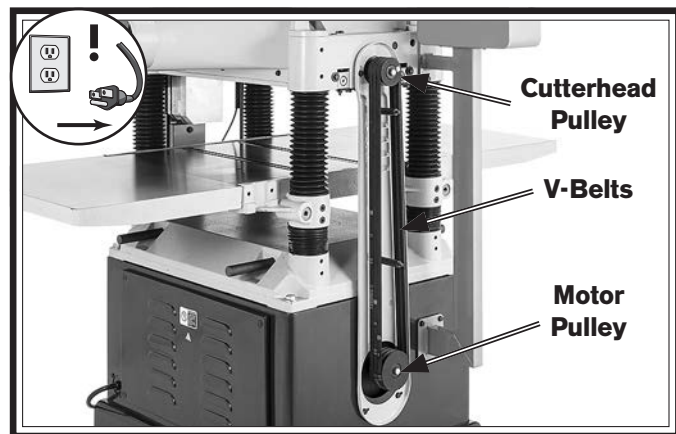

Figure 47. V-belts and pulleys.
2. Remove V-belt cover from left side of machine to expose belts (see **Figure 47**).